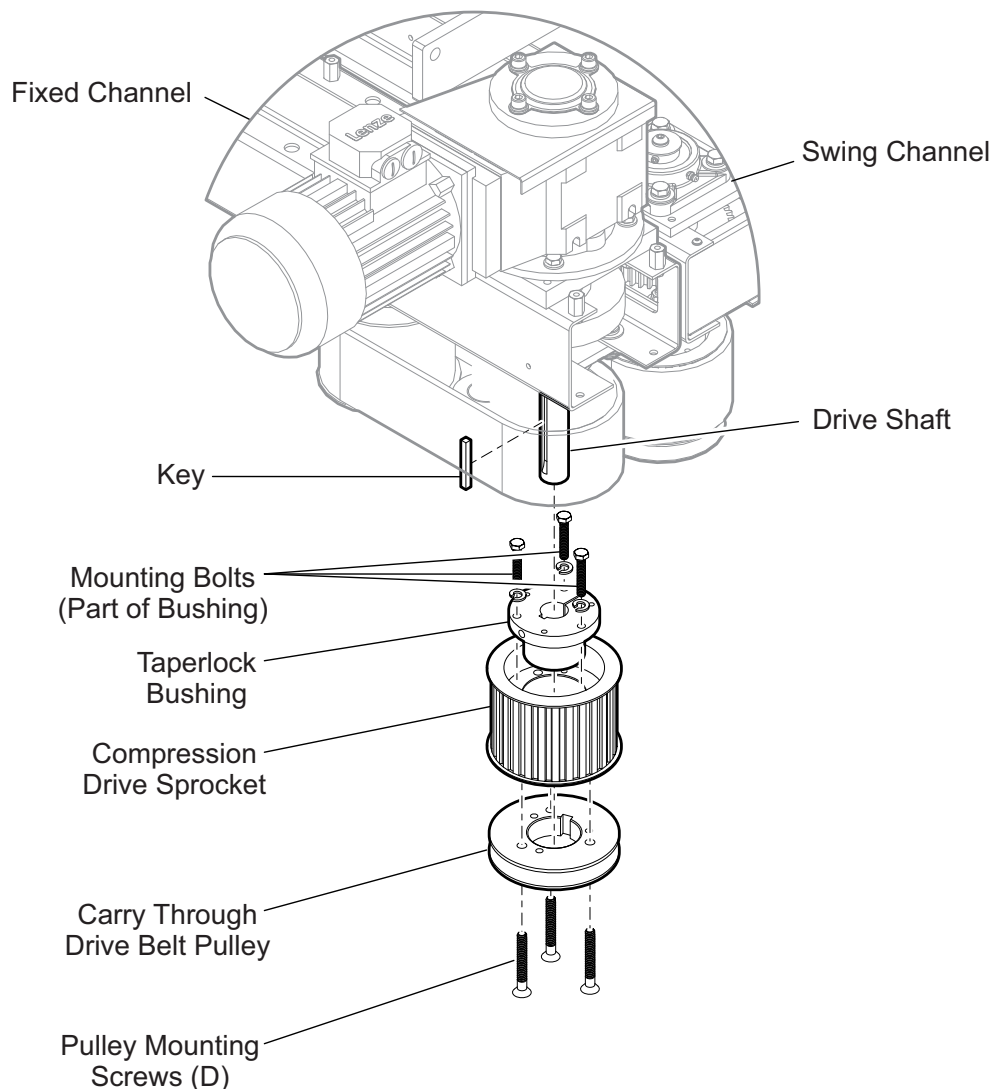

Figure 5-27: Carry Through Belt Drive Pulley Components
5. Remove the three screws, (D) that hold the pulley to the compression sprocket bottom (see Figure 5-27: Carry Through Belt Drive Pulley Components).
The compression belt of the PBC6000 is driven by a toothed sprocket (see Figure 5-27: Carry Through Belt Drive Pulley Components) for accurate timing. The sprocket should not need to be replaced unless it becomes damaged. Replacing the sprocket should only be done by a trained technician. If the sprocket needs to be replaced, please contact your Fischbein representative.